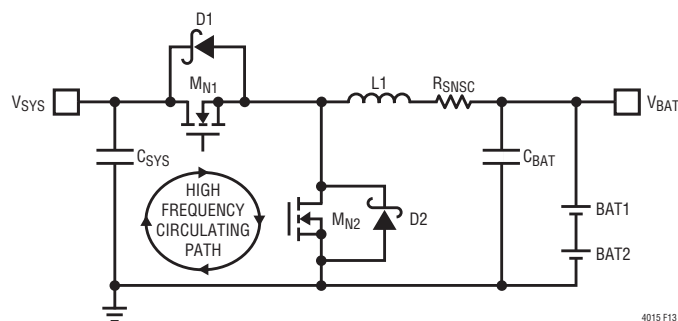

Figure 13. High Speed Switching Path
1. Keep M1, M2, D1, D2 and C_{SYS} close together. The high di/dt loop formed by the MOSFETs, Schottky diodes and C_{SYS} shown in Figure 13 should have short wide traces to minimize high frequency noise and voltage stress from inductive ringing. Surface mount components are preferred to reduce parasitic inductances from component leads. Connect the drain of the top MOSFET and cathode of the top diode directly to the positive terminal of C_{SYS} . Connect the source of the bottom MOSFET and anode of the bottom diode directly to the negative terminal of C_{SYS} . This capacitor provides the AC current to the MOSFETs.